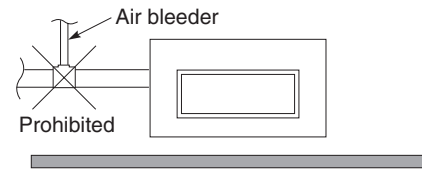

Fig. 3-14
- Do not install an air bleeder as this may cause water to spray from the drain pipe outlet. (Fig. 3-14)